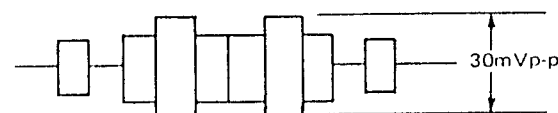

Figure 44.
- 4) First, place R3326 (Luminance control in record mode) in the minimum position. Then, adjust chroma record current to the level shown in figure 44 by using R3327 (Chrominance control in record mode).